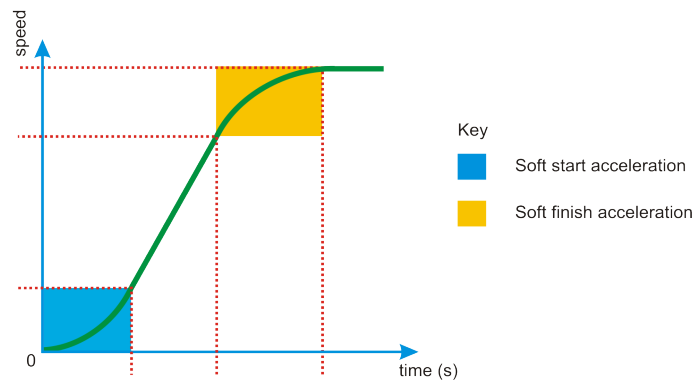

Figure 96: Defining soft start and soft finish acceleration
**Soft Start Acceleration** Whenever there is an increase in speed demand, the Soft Start Acceleration function temporarily reduces the acceleration rate during the time that is set with Soft Start Acceleration (the blue section in Figure 96). This makes the acceleration smoother, especially with high acceleration rates.
**Soft Finish Acceleration** When the wheelchair almost reaches its desired speed during acceleration, the acceleration rate is slowly decreased to zero (the yellow section in Figure 96). This prevents a sudden change in acceleration once the desired speed is reached.